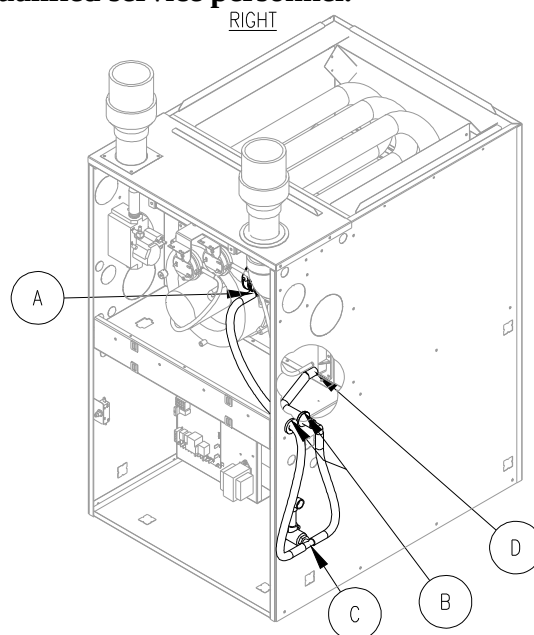

Figure 8A
1. The following diagrams depict typical condensate drain and trap connections for the furnace models series CLQS1, refer to the illustrations in Figures 8A-G.
If Inducer points Right and condensate exits Right, see figure 8A.